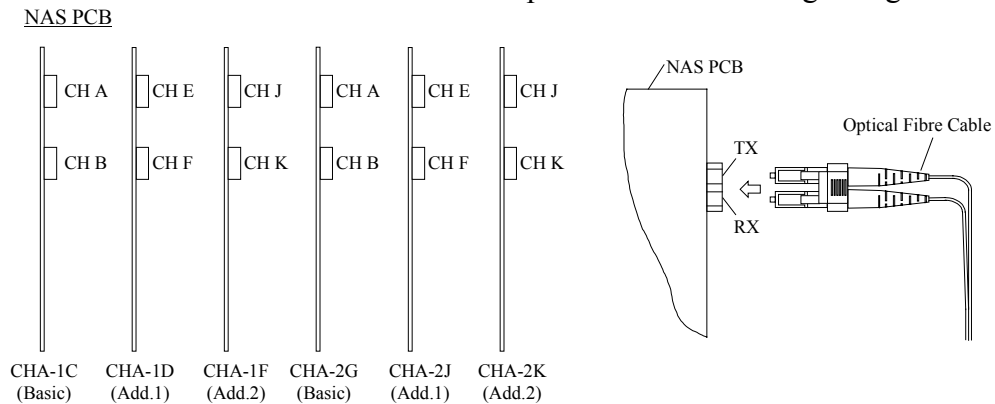

Fig. 3.6.5-4 Connection of Optical Fiber Cable
- Fix the cable to base and attach the cable clamp and bracket referring to Fig. 3.6.5-3.